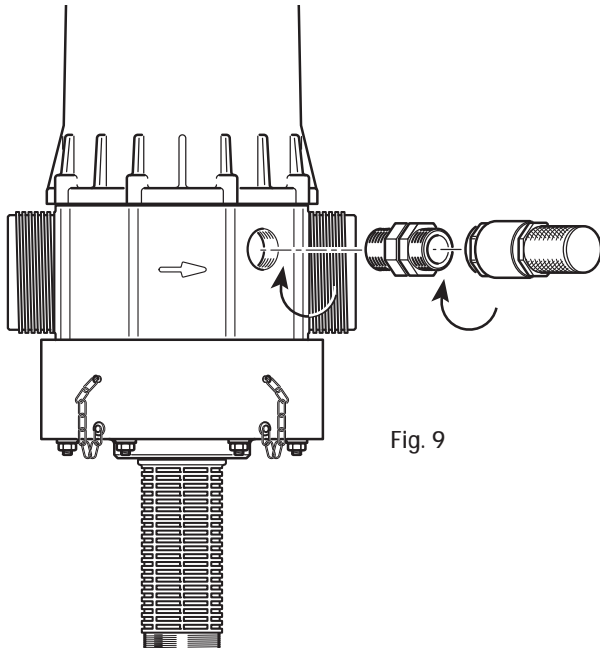

Fig. 9
- This automatically recreates normal atmospheric pressure in the Dosatron in the event of an accidental vacuum in the line (Fig. 9)*.